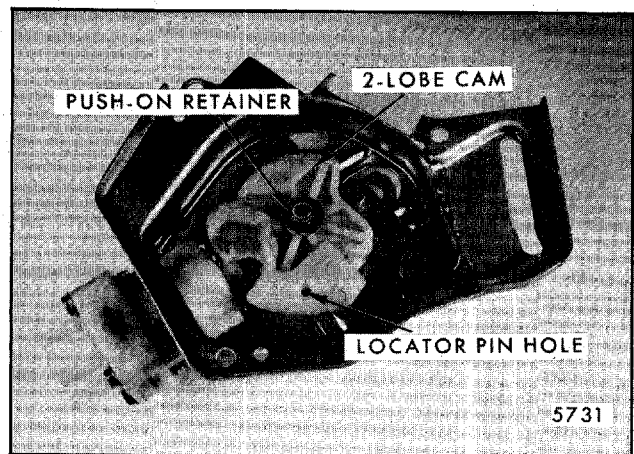

Fig. 2-139-Drive Cam
Remove push-on retainer and slide cam off shaft (Fig. 2-139). New retainers are provided in cam service packages.
- c. To reassemble, position pulse relay on switch base locator pins, rotate drive cam counterclockwise to position shown in Figure 2-139, then secure the complete assembly to washer pump frame with the attaching screw.
- a. Follow disassembly steps under items 2, 3 and steps c and d under item 4.
- b. Bend or chisel off the four bent over tabs that secure the coil mounting bracket to the base (Fig. 2-139).